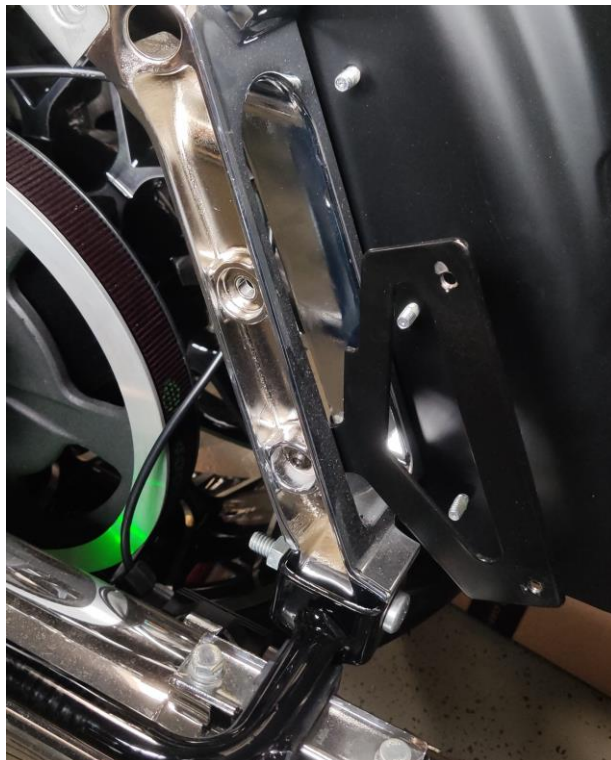

Abb.1
4. mount the supplied holder with the screws (2 x M6x20 + nut) on the lower frame hole (Abb.1). Tighten the screws just enough so that the holder can still be moved but does not slip by itself.